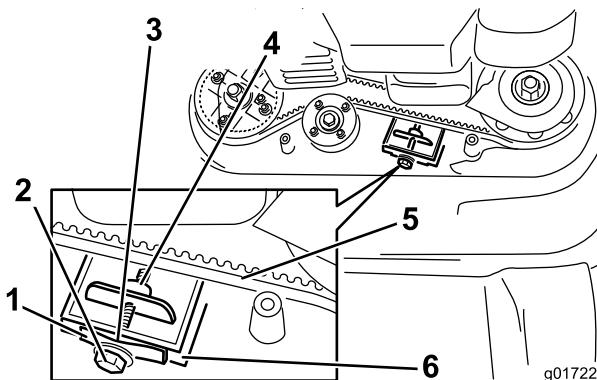

Figure 40
**Note:** If there is a visible gap between the gauge and the spring, tighten the adjusting bolt and the nut until the paper barely slides freely in and out of the gap (Figure 40).